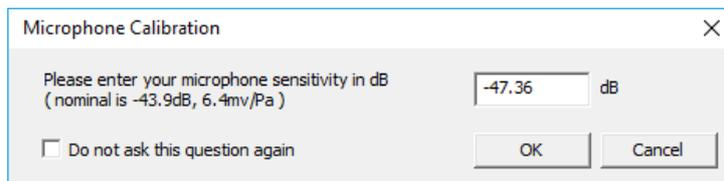

Figure 1 - Initial microphone calibration
4. The first time you run FINE QC the software will ask for your microphone calibration data (Sensitivity), see Figure 1.